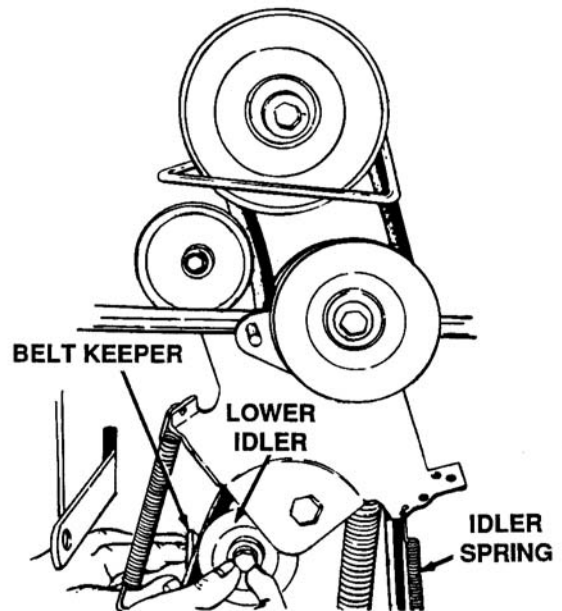

Figure 7-58. Removing Lower Idler and Spring
6. Remove the lower idler by taking out the center bolt and nut. See Figure 7-58.